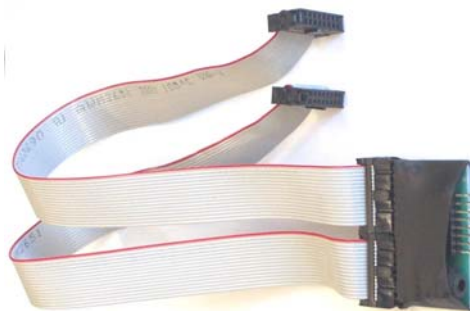

Figure 8 – Cloning Kit 2
- Using the NV10 cloning kit CK2 or connect the two units together as above (see figure 8).